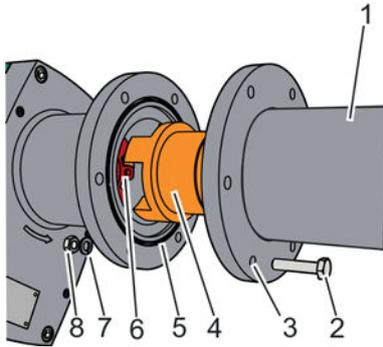

Fig. 89: Releasing the extension pipe from the machine
16. ▶ Release the attachment bolts (Fig. 89/2) of the extension pipe (Fig. 89/1).
17. ▶ Place the nuts (Fig. 89/8), retaining rings (Fig. 89/7) and attachment bolts (Fig. 89/2) to the side.
18. ▶ Carefully separate the extension pipe (Fig. 89/1) from the connection flange of the machine and place to the side, secured against rolling away.
19. ▶ Remove the O-ring (Fig. 89/5) from the groove of the connection flange, clean with a lint-free cleaning cloth, check for damage and place to the side.